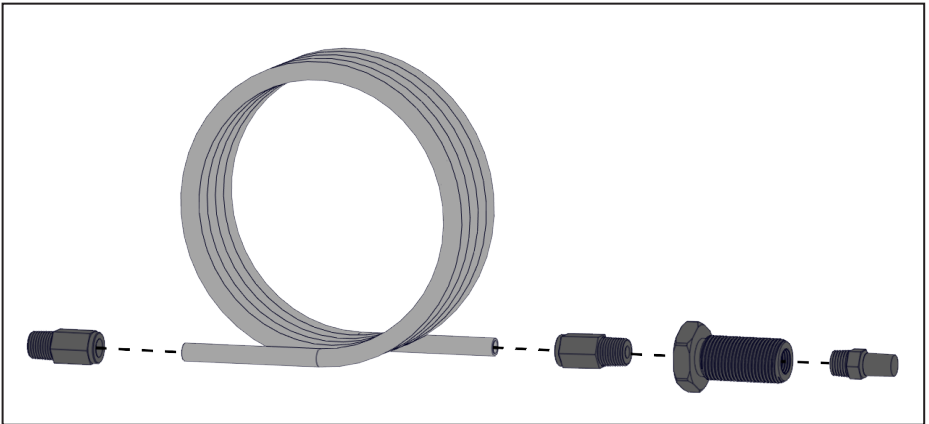

Figure 42 — Tubing Installation Remote Blowdown Muffler assembly
- Install the tube into the push-to-connect bulkhead fitting (Figure 42)